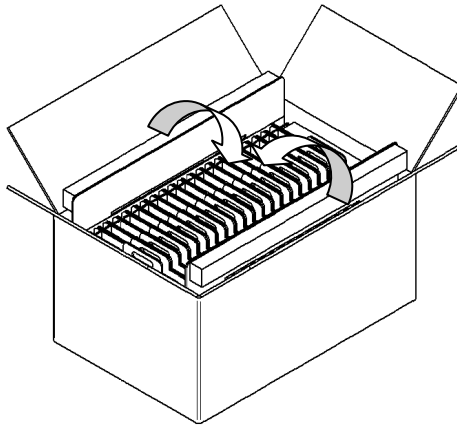

Fig 8
- (3) Upper protector is put on the products, and shut the box. (Fig.8)